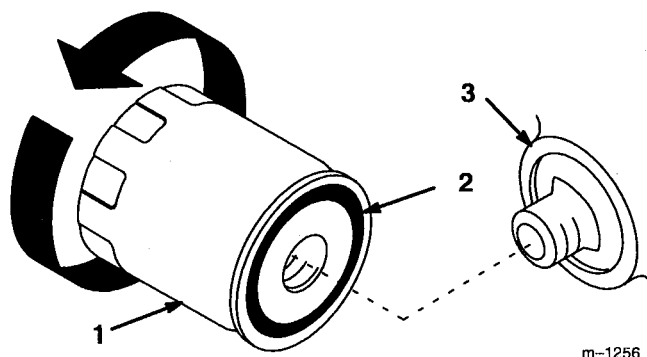

Figure 26
2. Remove the old filter and wipe the filter adapter (Fig. 26) gasket surface.
3. Apply a thin coat of new oil to the rubber gasket on the replacement filter (Fig. 26).
4. Install the replacement oil filter to the filter adapter. Turn the oil filter clockwise until the rubber gasket contacts the filter adapter, then tighten the filter an additional 1/2 turn (Fig. 26).